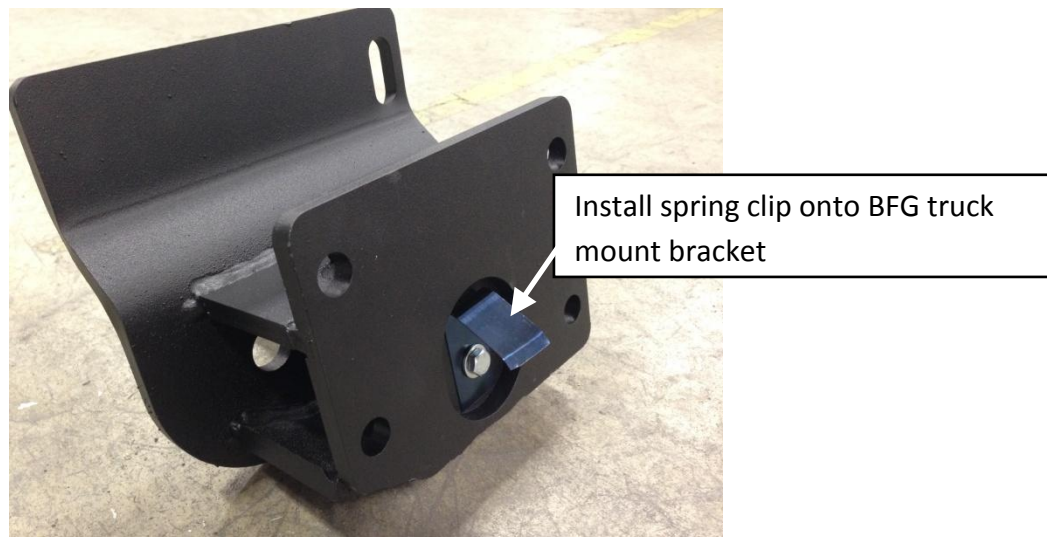

Figure 4
5. Install tow receiver spring clip using M6 bolt, flatwasher and locknut provided in hardware package as shown in Figure 4.